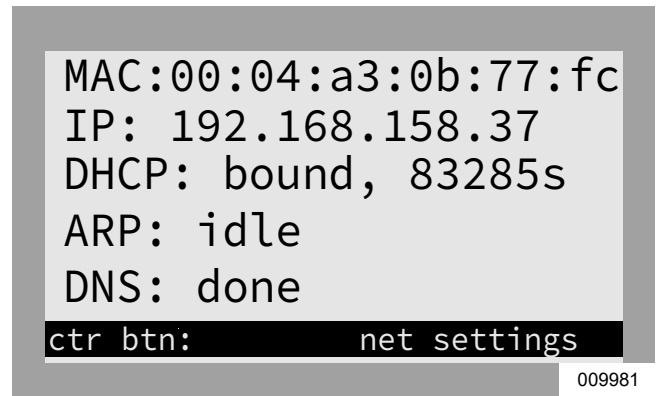

Figure 6-28. Ethernet Troubleshooting
- Navigate the inverter control panel to access a screen similar to Figure 6-28. When properly installed, the inverter control panel will have an additional device page for Ethernet Settings.